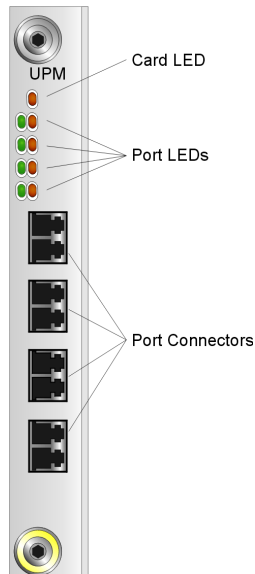

Figure 1-4 UPM Card LEDs and Connectors
Each UPM card (Figure 1-4) provides four full-duplex generic ports (G_Ports) that transmit or receive data at 1 or 2 gigabits per second (Gbps). G_Port functionality depends on the type of cable attachment. UPM cards use non-open fiber control (OFC) Class 1 laser transceivers that comply with Section 21 of the Code of Federal Regulations (CFR), Subpart (J) as of the date of manufacture.